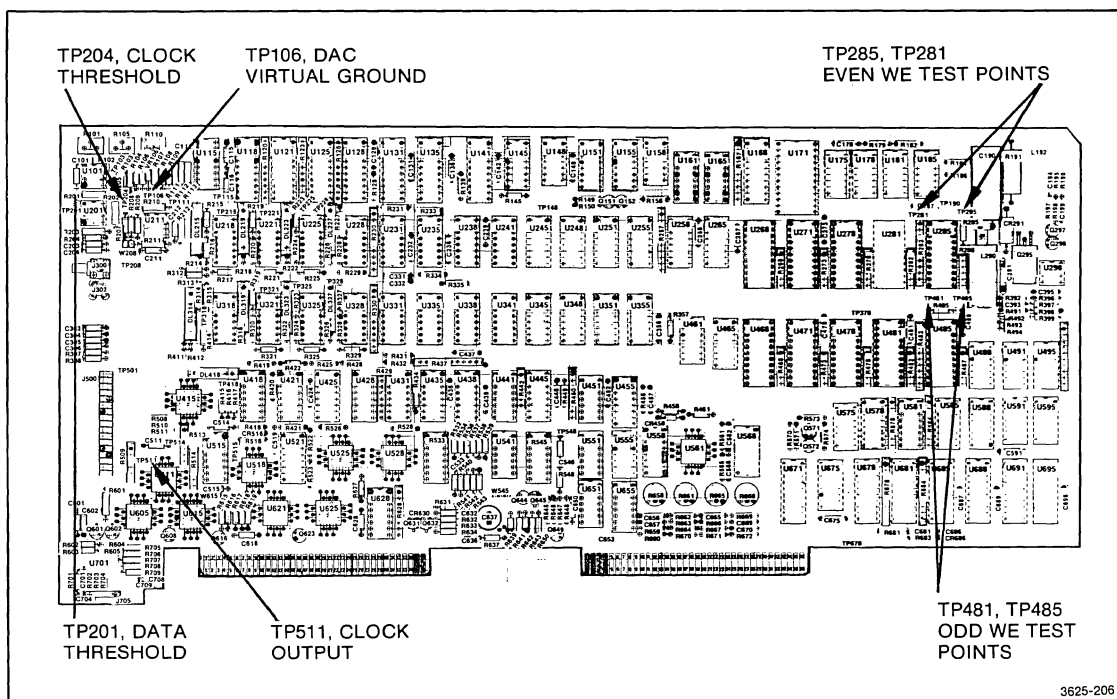

Figure 5-79. Test locations on the 91A08.
5. Connect the DMM ground lead of the DMM to test point TP106 of the 91A08 (see Figure 5-79).
3. Attach the probe for channel 1 of the oscilloscope to test point EA0 (TP281) on the 91A08. Attach the probe for channel 2 of the oscilloscope to test point EWE (TP285) (see Figure 5-79). The ground leads of the probes can be attached at any ground test point on the 91A08.